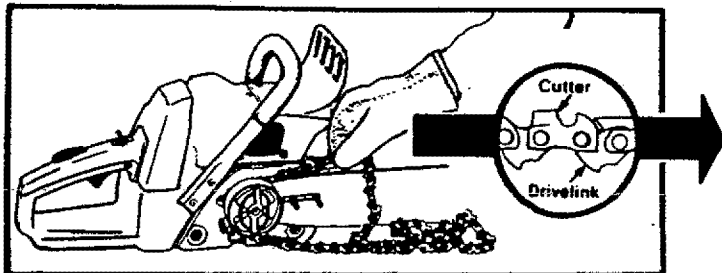

Figure 9
3. Hold chain with cutters facing as shown in Figure 9.
5. Start at the top of the bar and fit the chain drive links into the groove around the guide bar. Figure 9.